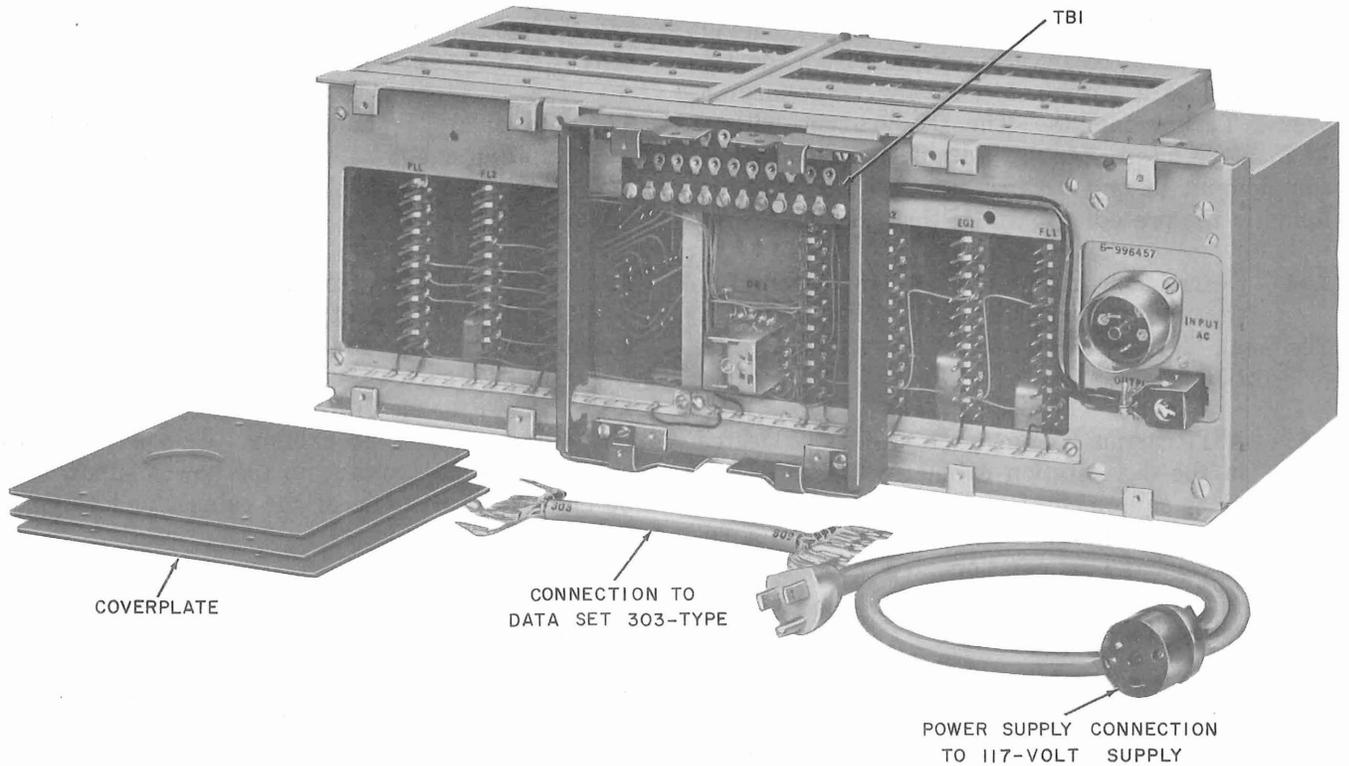

Fig. 14—Data Auxiliary Set 809B1—Rear View
3.46 All connections are made by three cables: one data equipment and two power cables. The DAS 809B1 comes with the data cable P-95M029 attached on TB1. The other end is spade-tipped, fanned, and color-coded for terminating on TB1 of DS 303-type. Refer to Table I for all connections. Refer to Fig. 14 for physical orientation.